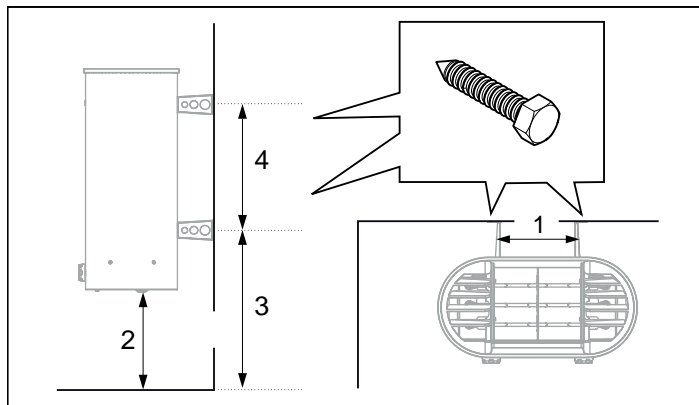

Figure 8: Dimensioning
- 6. Position the bracket screws according to the specified dimensioning see Figure 8, Page 7.